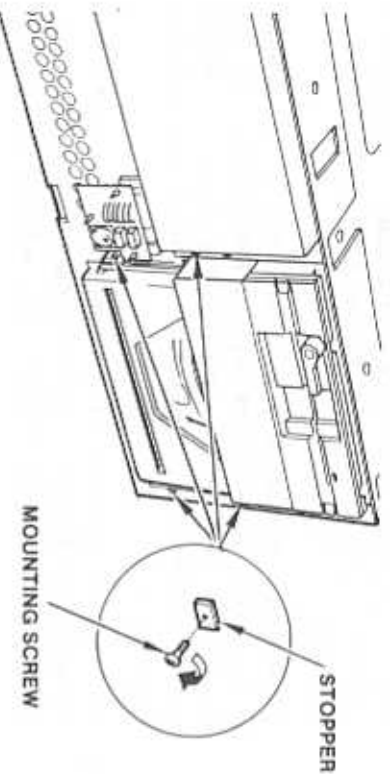

Figure 11-22. Securing the Fixed-Disk Drive
12. Install the diskette drive B cover plate using two of the screws and stoppers removed previously (Figure 11-22).